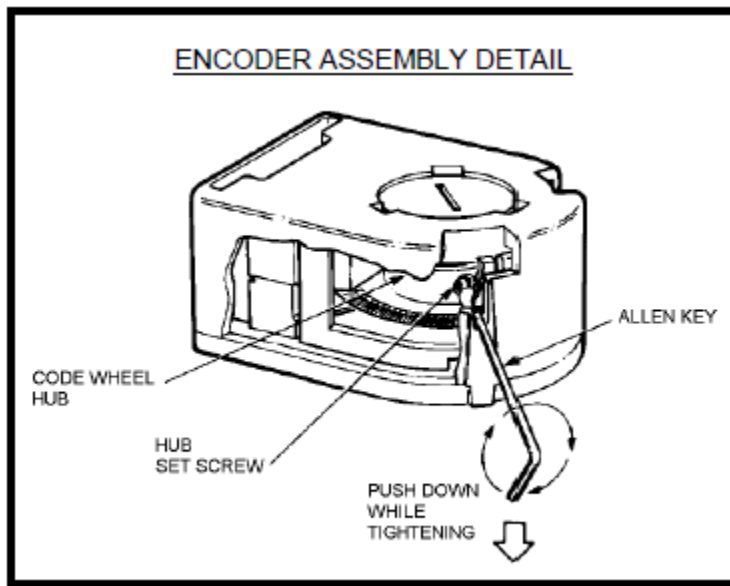

Figure X-10: Seating the Encoder
4. Push the Allen Key into the body of the encoder to ensure that it is properly seated into the code wheel hub set screw (Figure X-10).